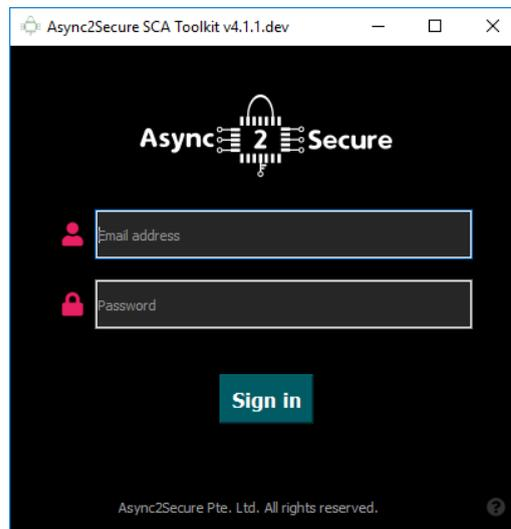

Figure 10: Login screen
1. First, log in with your account after the application is launched as shown in Figure 10.